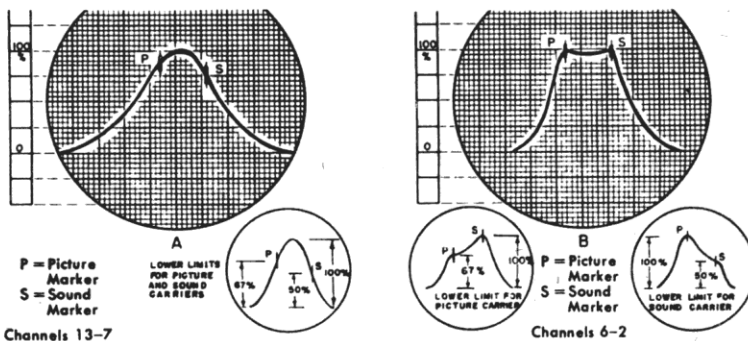

Fig. 25. R-F Alignment Curves
5. On all channels the picture carrier marker should not be less than 67% of the peak of the r-f response curve. The sound carrier marker should not be less than 50% of the peak of the response curve. See Figure 25. On the high channels the picture carrier marker should ride up nearer to the top of the curve provided the sound carrier marker does not go below 50%. On the low channels the picture carrier marker should ride as high up on the curve as possible and still keep the sound carrier marker above 50%.